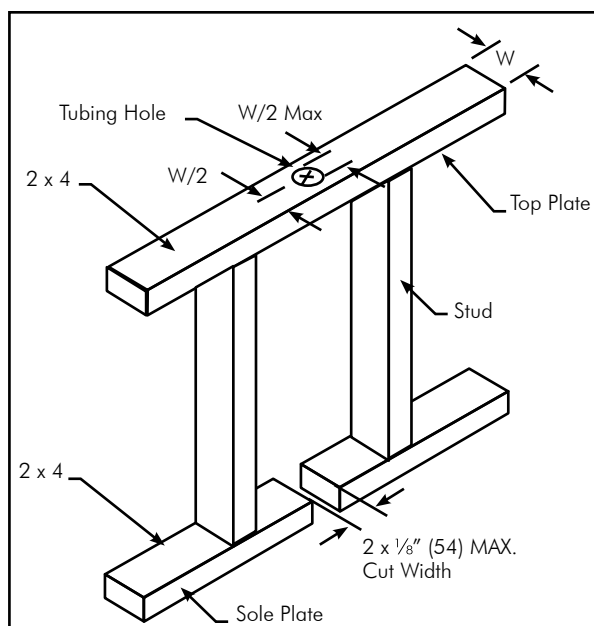

FIG. 4-6 Holes and Cuts in Top and Sole Plates
- In locations where Diamondback is installed through bored holes in joists, rafters, or wood members, holes shall be bored so that the edge of the hole is not less than 2" (51) from the nearest edge of the wood member. Where the distance cannot be maintained at any point, the tubing shall be protected by a Diamondback striker plate of the appropriate length and width installed in accordance with the striker plate instructions in this manual. The diameter of the bored holes shall be a minimum of 1/2" (13) larger than the outside diameter of the tubing jacket unless the hole size is in conflict with local building codes which shall prevail.
- The size of the hole drilled through **top plates, top frame members, and sole plates**, to allow the vertical passage of the tubing, shall not exceed $\frac{1}{2}$ of the width of the member. The hole should be bored through the center of the member (See **FIG. 4-6 below**).
- Where sole plates are cut for tubing, the width of the cut shall be $\frac{1}{2}$ " (13) larger than the outside diameter of the tubing jacket but not greater than $2\frac{1}{8}$ " (54), and the tubing must be protected with a Diamondback striker plate of the appropriate length and width installed in accordance with this manual (See **FIG. 4-6**).